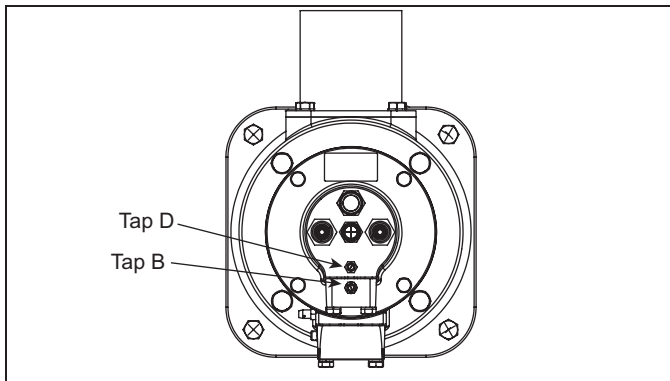

Figure 4.5. Set High Fire Gas
4. Adjust the high fire gas flow by adjusting the manual gas balancing valve until the pressure differential across the gas orifice between tap B and tap D is at the target value. (See Figure 4.5.)